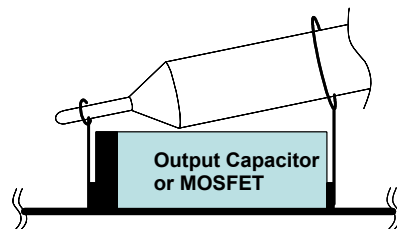

Figure 3. Proper Probe Setup to Measure Output Ripple and Phase Node Ringing
5. Use an oscilloscope to observe output voltage ripple and phase node ringing. For accurate measurement, see Figure 3 for proper test setup.